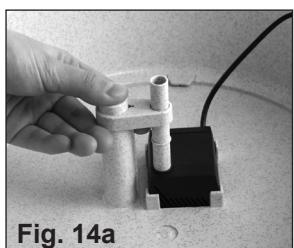

Fig. 14a
- 7) Remove the pump for cleaning. First remove the **Intake Tube** by lifting up on the **Intake Tube Holder** to free the Intake Tube from the pump. (See Fig. 14a & 14b) This will allow you to remove the pump. The intake tube can then be pulled from the intake tube holder. (See "Pump Maintenance" for detailed cleaning instructions for the motor/pump)